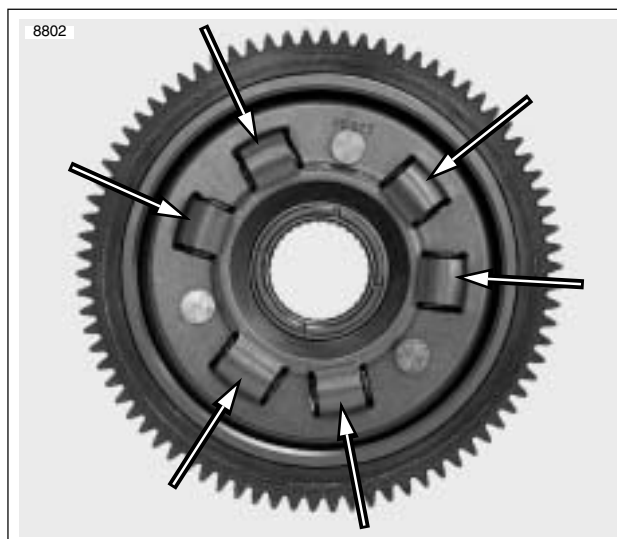

Figure 6-23. Compensating Spring Set
8. See Figure 6-23. Inspect the clutch shell compensating spring set.